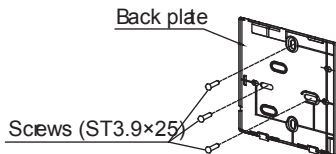

Fig 3-5
- For surface mounting, fasten the back plate on the wall with the 3 screws (ST3.9x25) and plugs. (Fig.3-5)